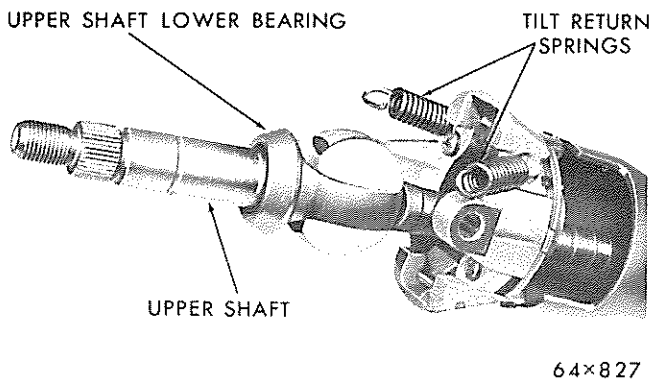

Fig. 27 - Removing or Installing the Steering Shaft Assembly
(14) Remove the upper steering shaft with lower bearing out of the steering column, (Fig. 27). Remove the lower bearing from the shaft and the return springs from the actuator support. Note position of the springs.
- (3) Install the upper steering shaft and lower bearing as shown in Figure 27.
- (4) Install the lower ends of the two return springs on the support spring anchors, (Fig. 27).